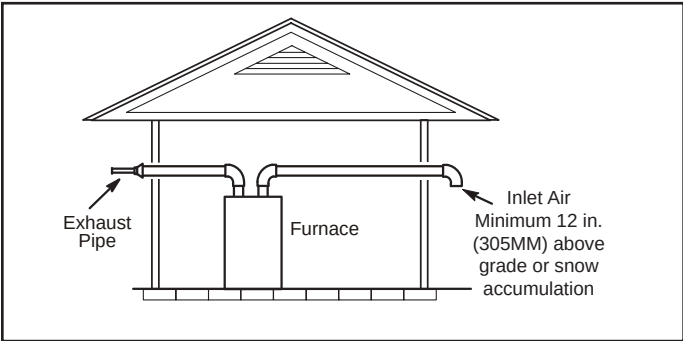
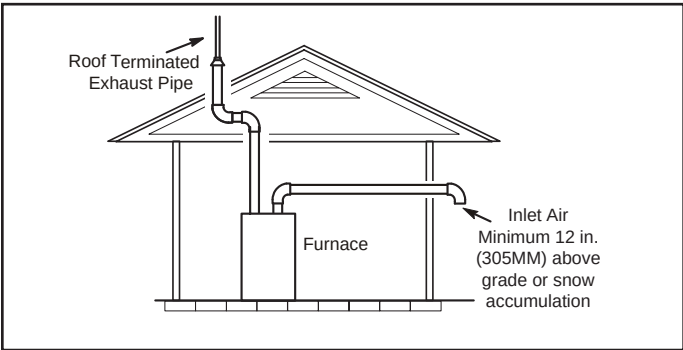

Figure 26. Exiting Exhaust and Intake Vent (no common pressure zone)
Figure 27. Exiting Exhaust and Intake Vent (no common pressure zone)
Intake and exhaust pipes may be routed either horizontally through an outside wall or vertically through the roof. In attic or closet installations, vertical termination through the roof is preferred. Figure 26 through Figure 34 show typical terminations.
- 1. Intake and exhaust terminations are not required to be in the same pressure zone. You may exit the intake on one side of the structure and the exhaust on another side (Figure 26). You may exit the exhaust out the roof and the intake out the side of the structure (Figure 27).